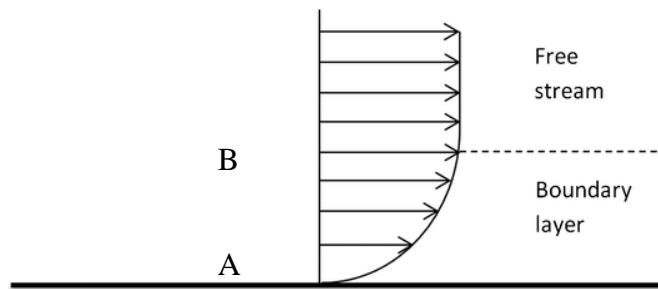
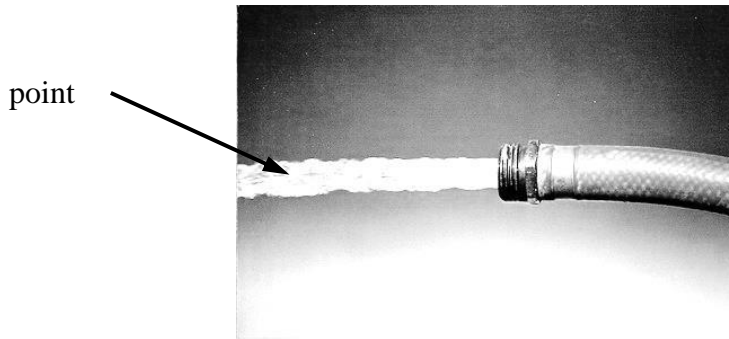

Fig. 3.
Fig. 4.
**Q8.** Fig. 3 below shows a boundary layer. Note that the edge of the boundary layer is shown by the dashed line. In which portion of Fig. 4 is the flow uniform?
**Q9.** On Fig. 3, where does the no-slip condition occur?
**Q11.** Consider a water hose, from which a jet of water exits as shown in Fig. 4. The pressure inside the water jet – in terms of gauge pressure - just after leaving the hose (i.e. at point A) will be: